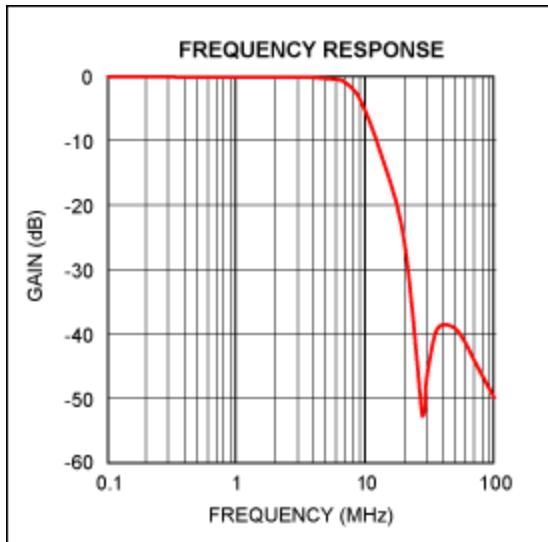

Figure 5.
**Table 3** shows the normalized 3rd-order butterworth lowpass filter with the cut off frequency at 1rad/s and the stopband frequency at 3rad/s. **Table 4** shows the appropriated L and C values for different source/load impedance and the bench measurement values for -3dB BW and attenuation at 27MHz. The attenuation is over 40dB at 27MHz. At 6MHz, the attenuation is approximately 0.6dB for  $R_1 = R_2 = 150\Omega$  (**Figure 5**).